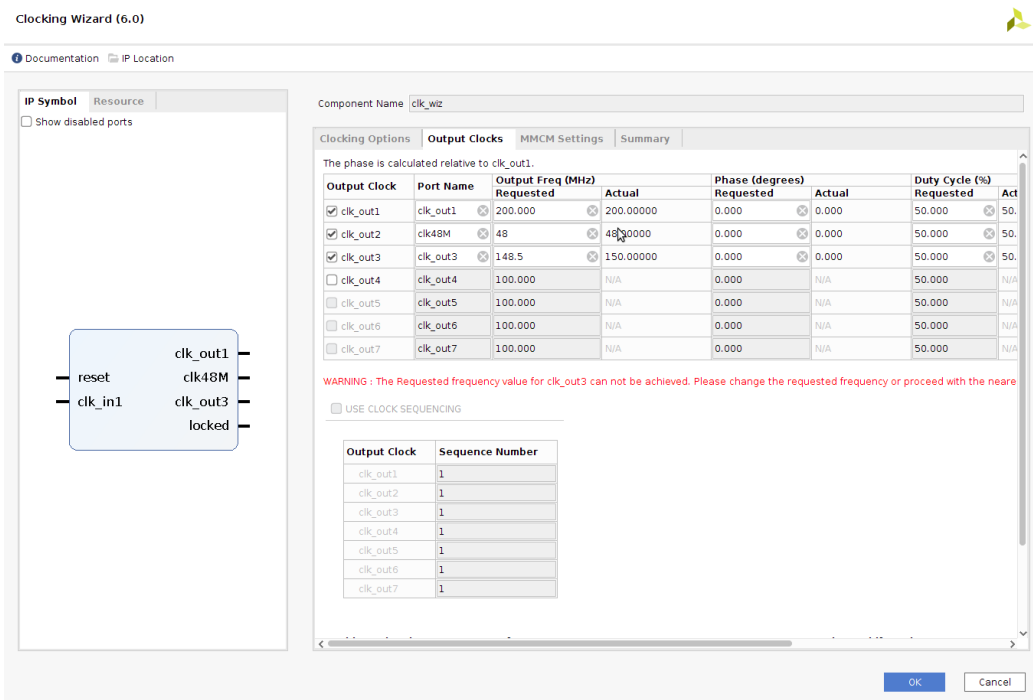

Figure 17. Clocking architecture
- The clocking architecture (see Figure 17) of the design is critical and a multi-clock design is implemented with the 200MHz and 150MHz being used as references for the MIPI interface and the AXI Stream video processing network. The 48MHz clock is provided externally to the ISP.